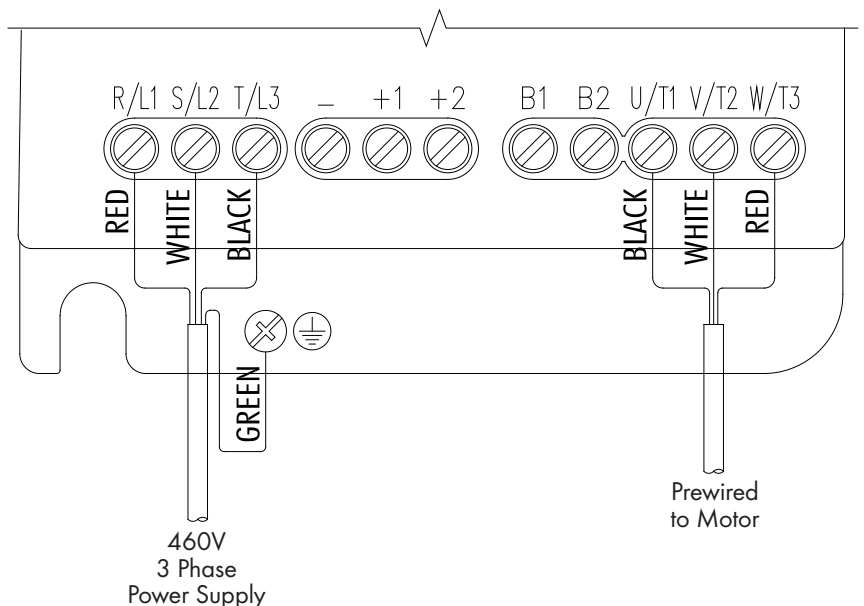

Figure 20B
All cables that enter the Munters Drive box must enter through a properly sized watertight fitting. Loosen the (4) screws in the cover of the Munters Drive box to access the terminals inside to connect power and other cables. *See Figure 20A.* Run the 3 phase power cable through watertight fitting into the Munters Drive box and connect to the terminals "R/L1, S/L2, T/L3" and Ground in the box. *See Figure 20B.* The Munters Drive is prewired to the Motor.